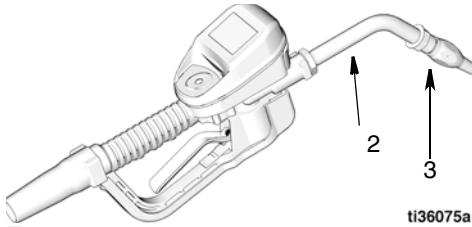

FIG. 9
1. Thread nozzle (3) onto extension (2) (FIG. 9).